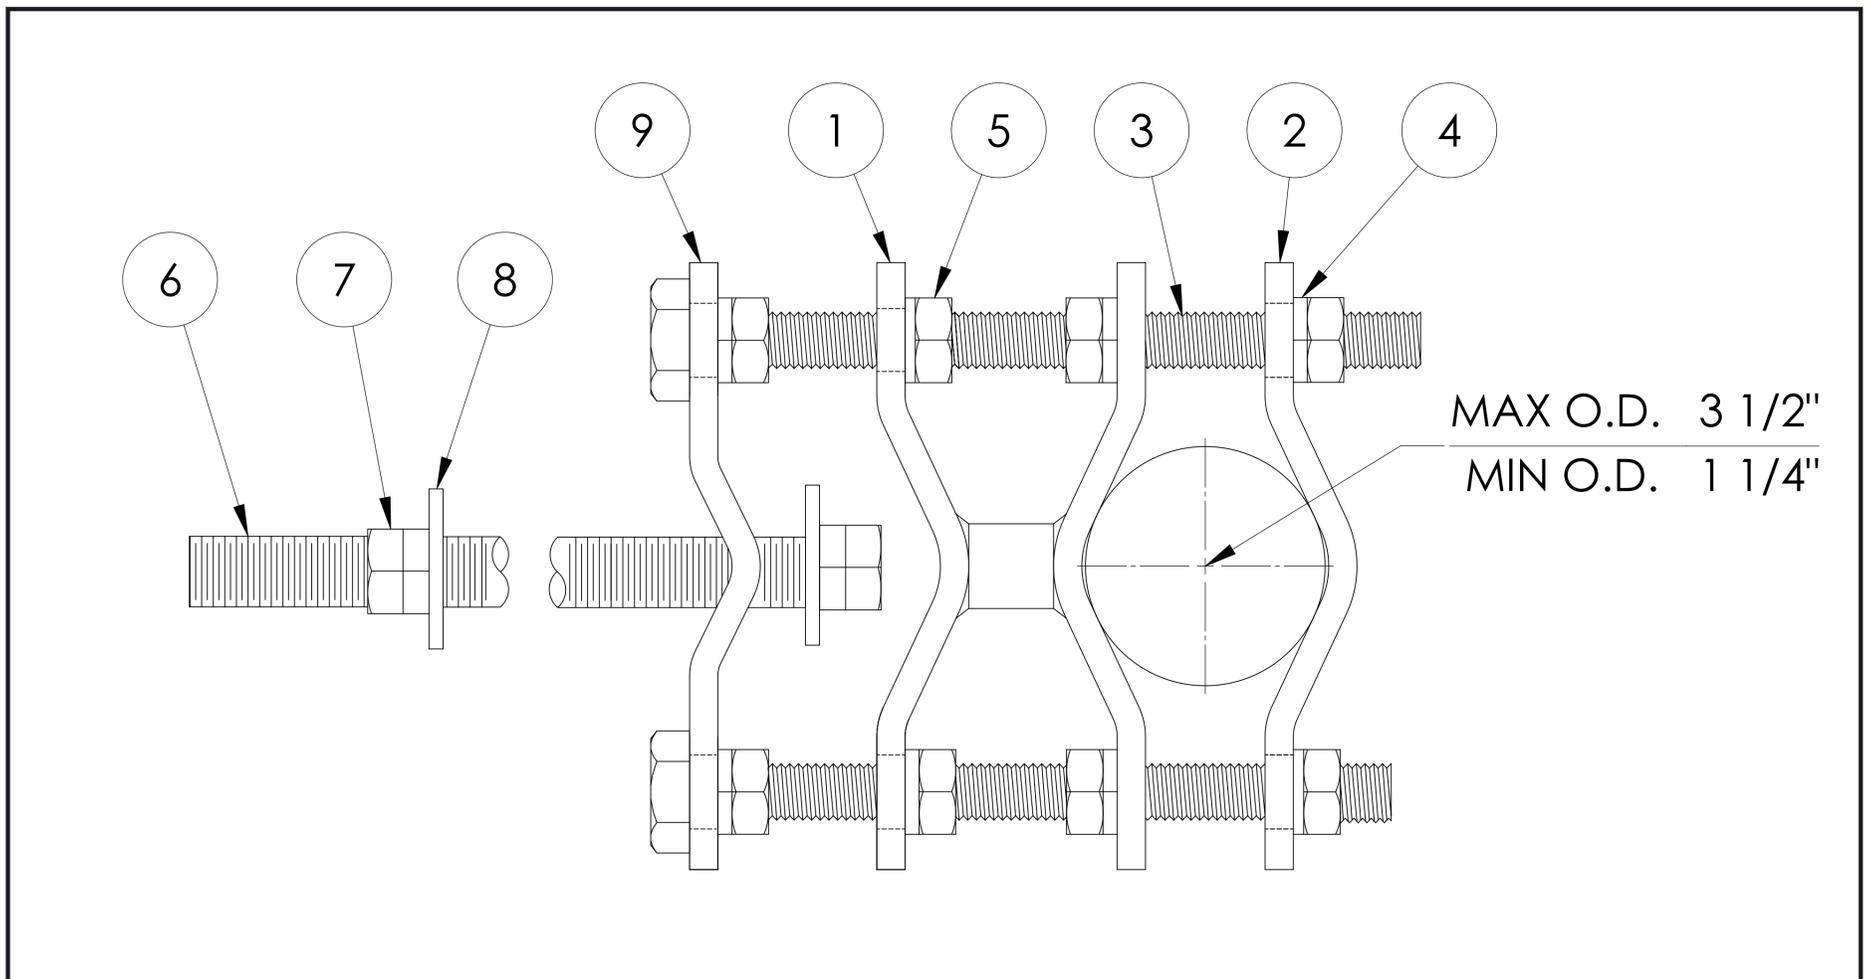

Figure 1. DB365W Mounting Clamp Parts.
3. Assemble the remaining hardware for the mounting clamp as shown in Figure 1. For stability, the clamp (Item 1) should be installed as close to the modified bracket (Item 9) as the nut on the end of the threaded rod (Item 6) will allow.